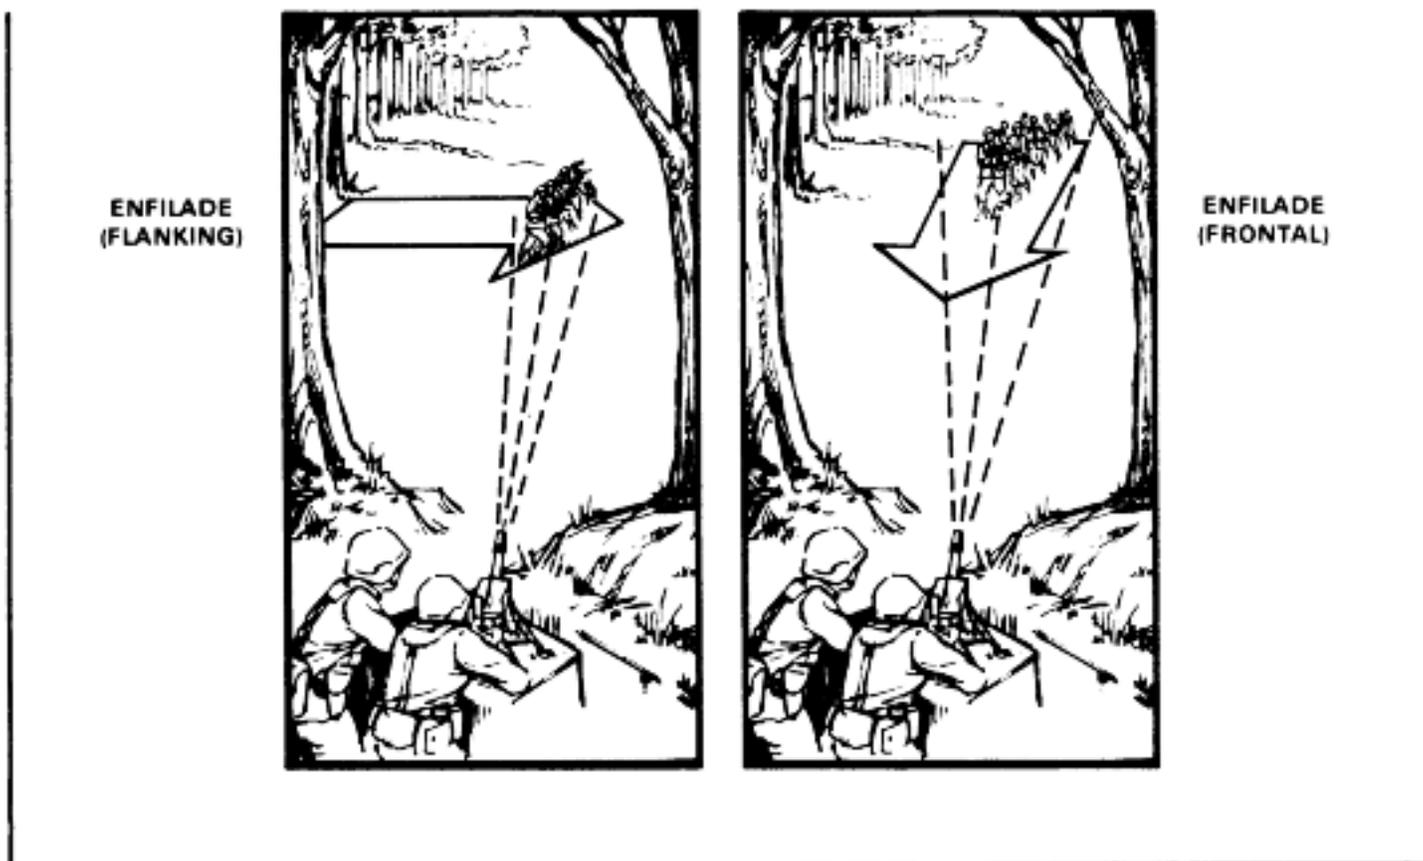

Figure 6-2. Classes of fire with respect to the target.
b. Respect to the Target. This class of fire is divided into four types of fire (Figure 6-2):